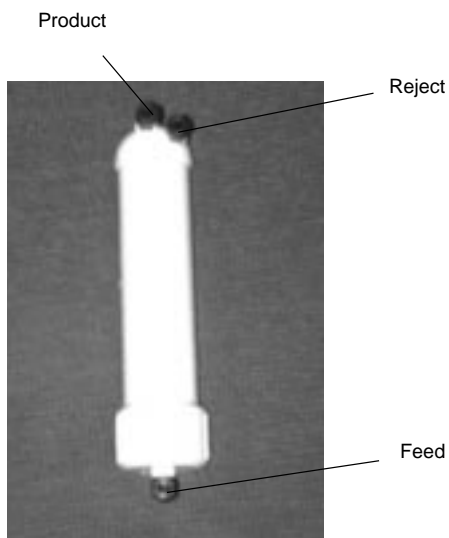

Figure 5 Ultrafilter Connections
4. Identify the feed, product and reject connectors on the ultrafilter. The feed connector is the solitary one on one end of the ultrafilter. Hold the ultrafilter so the feed connectors on the top face you. Viewed this way, the product connector is the one on the left. The reject connector is the one on the right. (See Figure 5) Remove the nut, stainless steel grab-ring, backup ring and o-ring from each of the ultrafilter connections and discard.